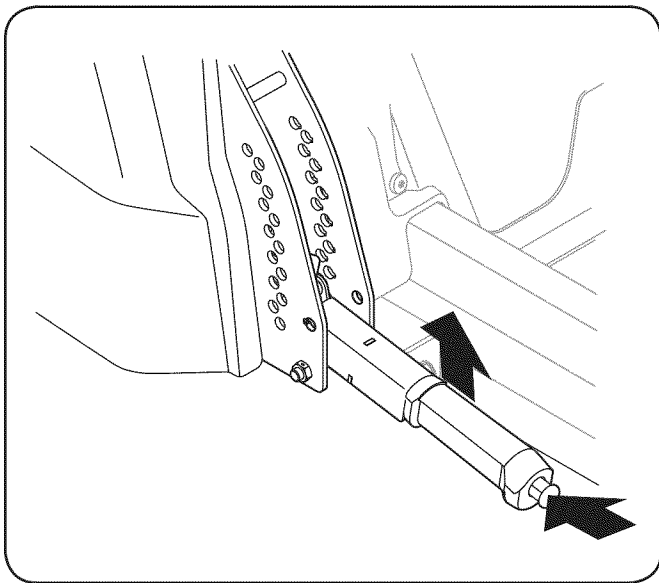

Figure 11
3. Use the deck lift handle to raise the deck to its highest position by depressing the button at the end of the handle and pulling upwards. Make sure the latch engages on the pin. See Figure 11.